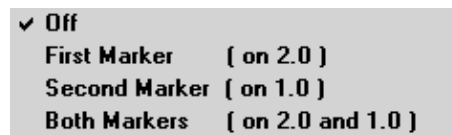
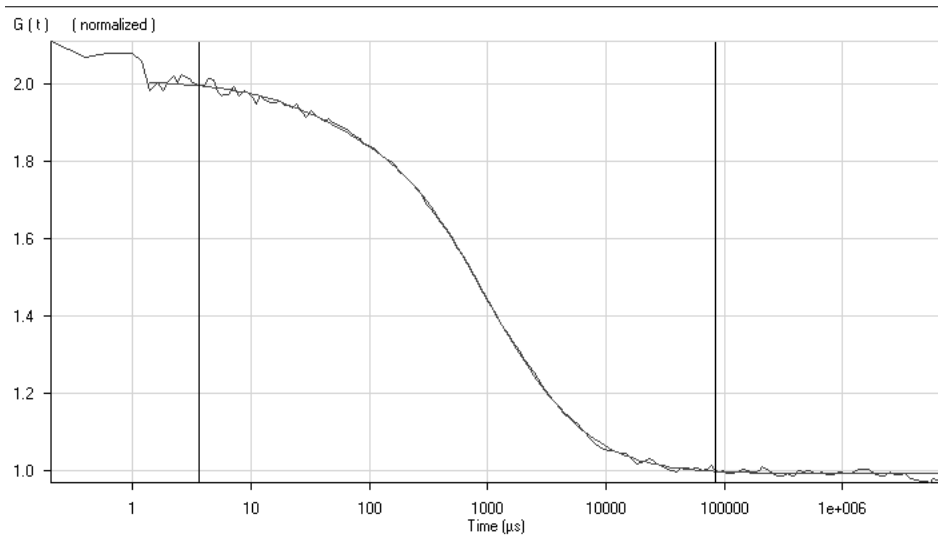

Fig. 5-379 Subcontext menu of the Normalized view
Fig. 5-381 The Correlation Curve window in normalized display
- Select **Normalized view** to display the correlation curves in a normalized form. Two bars define the positions of the curve that will be normalized to 1 and 2, respectively (see Fig. 5-381). You have the option to normalize to 2 and 1 separately, or to normalize to both **Options** are given in the subcontext menu (see Fig. 5-379). In this case the left bar defines the position where the curve is normalized to 2, whereas the right bar specifies the position at which the curve is normalized to 1.